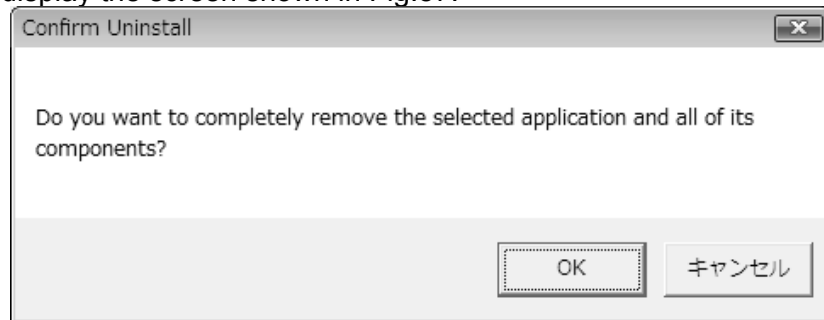

Fig. 87 Confirmation of uninstallation
(7) Click **Next** to display the screen shown in Fig.87.